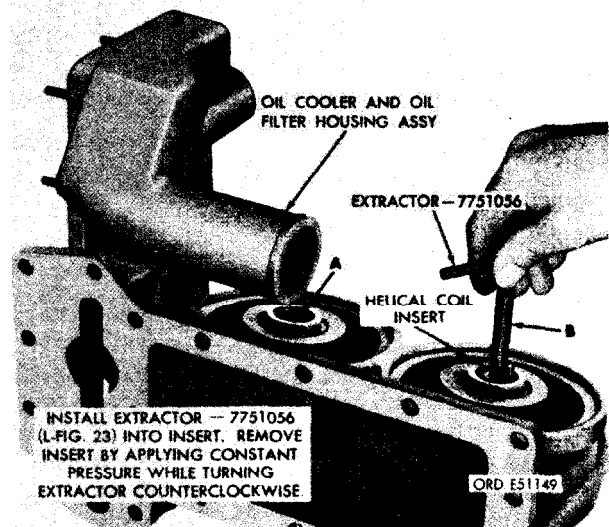

FIGURE 315. REMOVING HELICAL COIL INSERT FROM OIL COOLER AND OIL FILTER HOUSING USING EXTRACTOR - 7751056.
- (1) Refer to figure 315 and remove helical coil insert from oil cooler and filter housing.